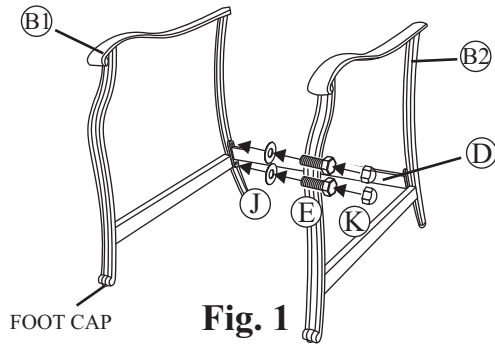

Fig. 1
Step 2: Attach the leg support to the chair legs (B1 & B2) by using the 1/4"x20 mm bolts and washers as shown in Fig.1. Guide these bolts through the holes in the leg support, into pre-drilled holes in the chair legs. **Hand tighten only.**
Step 2: Attach the seat frame to the left chair frame by using three 1/4"x48 mm bolts and washers as shown in Fig.1. Guide bolts through holes in the seat frame and left chair frame, add a nut with washer to each bolt. **Hand tighten only.** Repeat for the right chair frame.